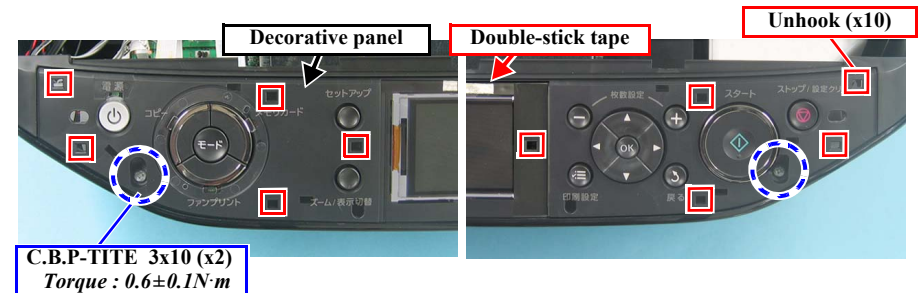

Figure 4-5. Removing the Decorative Panel and Panel Assy
4. Remove the screws (x2) securing the Panel Assy. (Fig. 4-5)